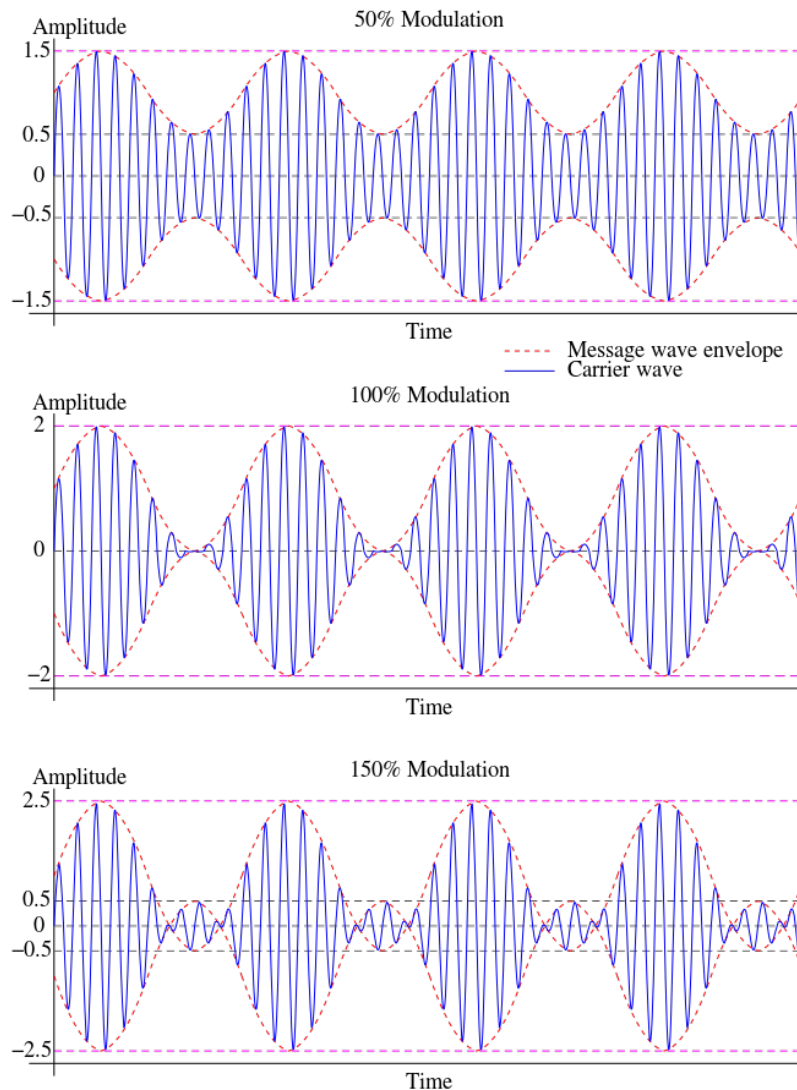

Figure 8: Under, Full and Over modulation of a signal
10. For modulation set the SFG to sine wave at 400Hz and amplitude to $0.4V_{pk-pk}$. Check if you have got diffracted beams on each side of the main beam with approximately the same intensity. Observe the DSO and how it changes the modulated signal. - To get a successful quality of modulation make sure not to over modulate the signal, otherwise the signal may become distorted. [Fig 8]